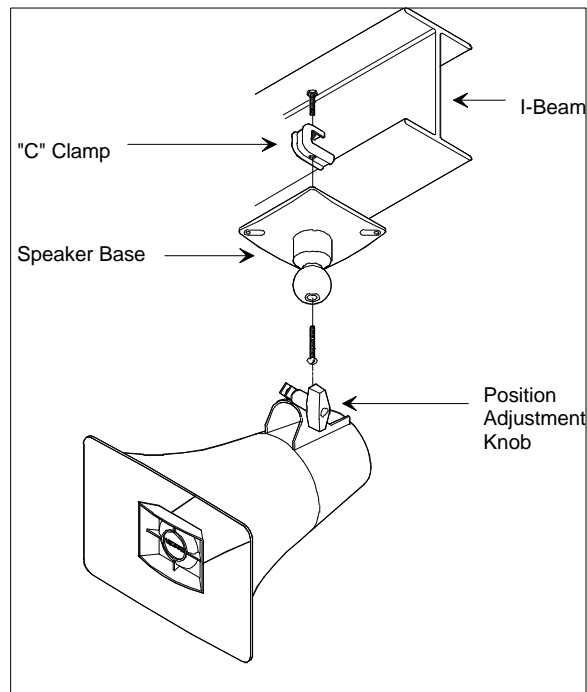

Figure 1 - Mounting to a Beam with a "C" Clamp
- A "C" clamp is provided with the horns to allow mounting to a beam. Place the bolt through the hole in the bottom of the base to secure the "C" clamp to the beam (See Figure 1). It is suggested that the horn be mounted to the underside of the "I" beam to provide maximum positioning adjustments.